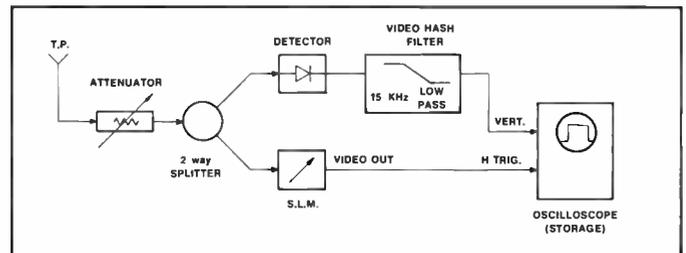

Figure 3
4) Set up the van or service vehicle with the equipment as illustrated in Figure 3.